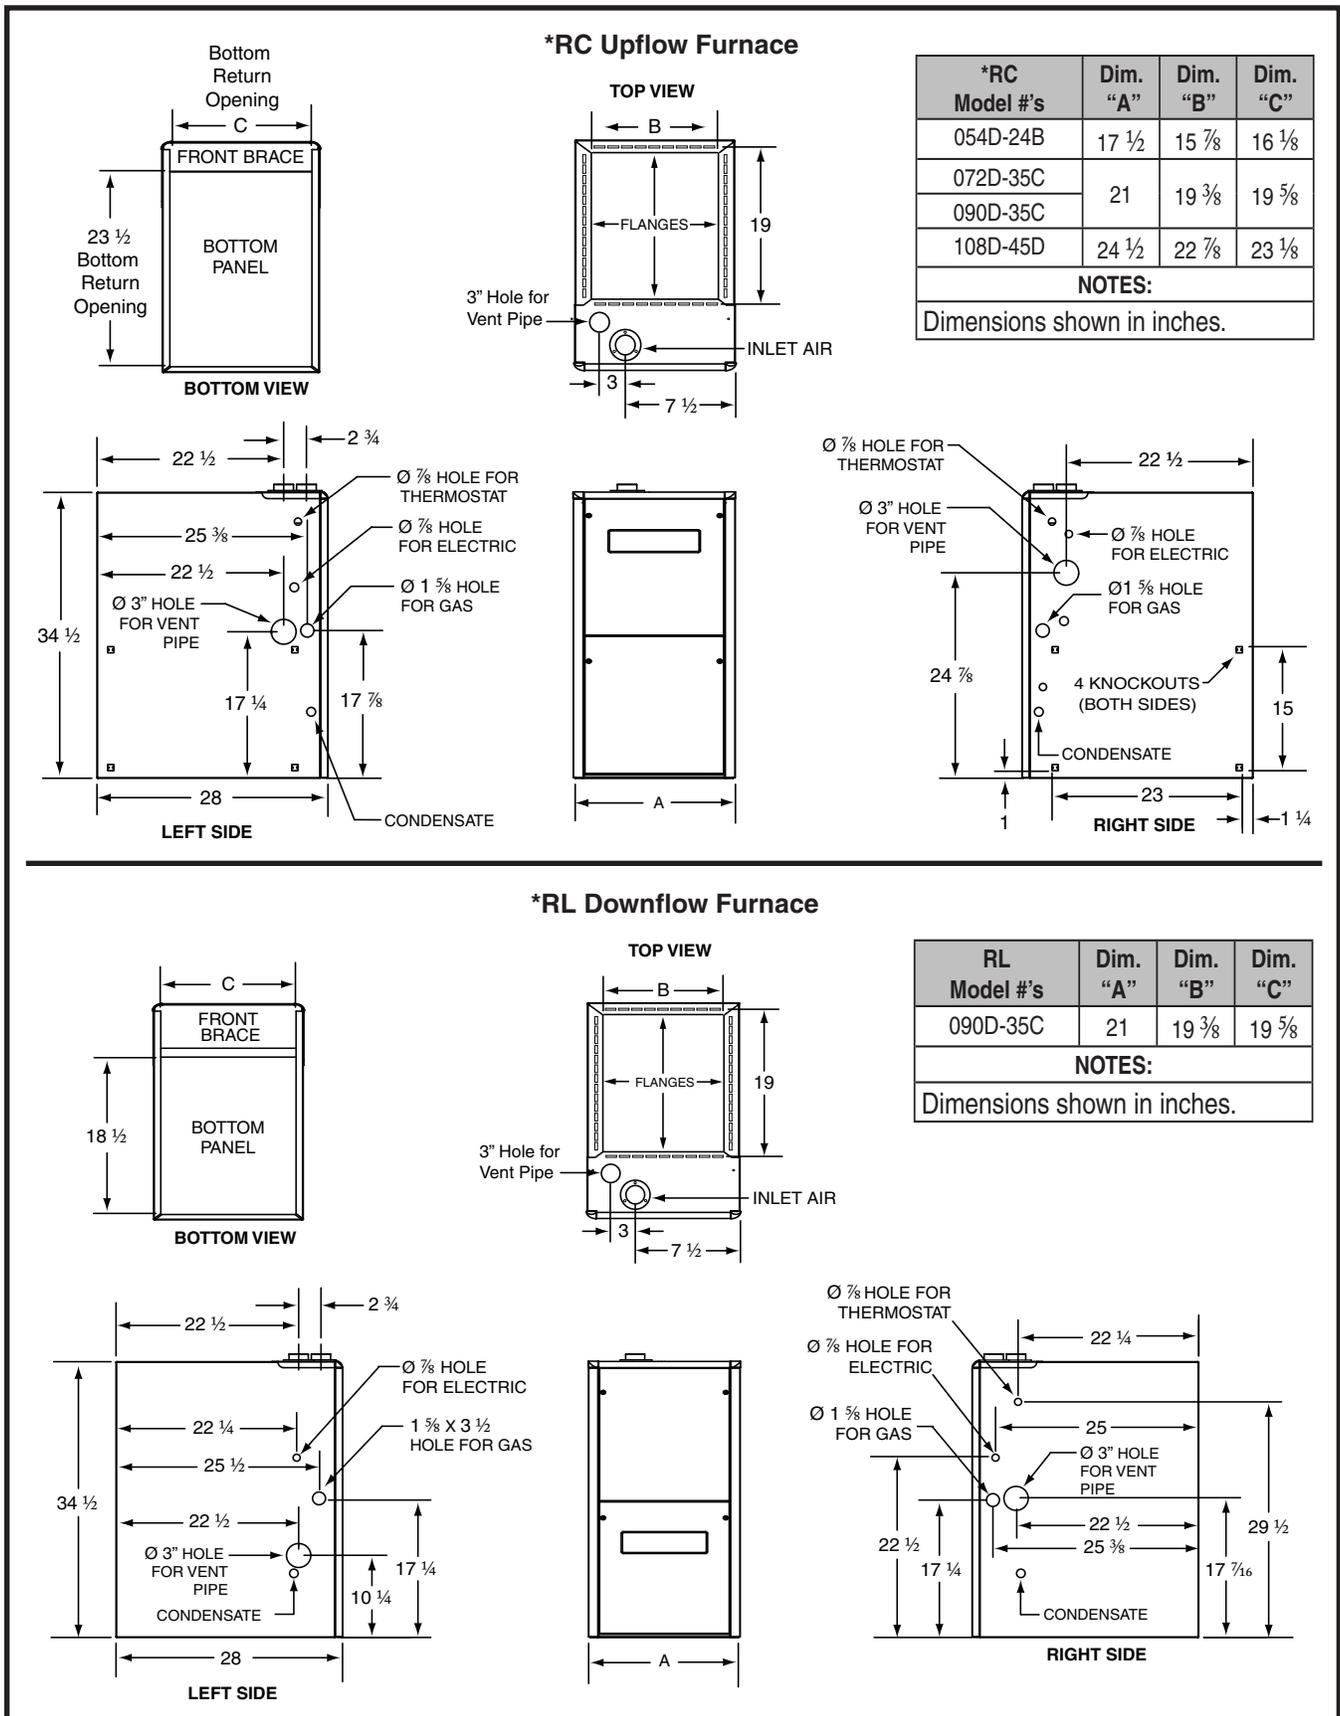

Figure 40. Furnace Dimensions
- Are all the LED's on the furnace control board constantly ON? If not, refer to Table 7 or the wiring diagram (Figure 40, page 39) to determine fault condition.